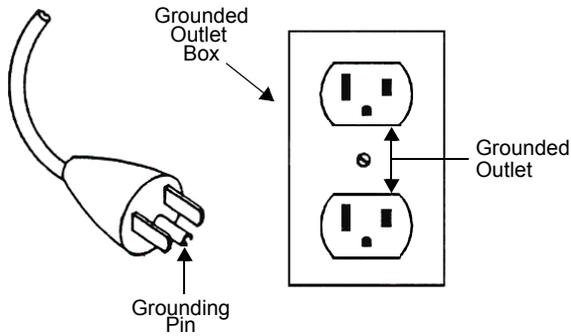

Figure 7 Grounding Plug and Outlet
- When this product is configured for use on a nominal 120 V circuit, it must be used with a grounding plug that looks like the plug illustrated in Figure 7.*